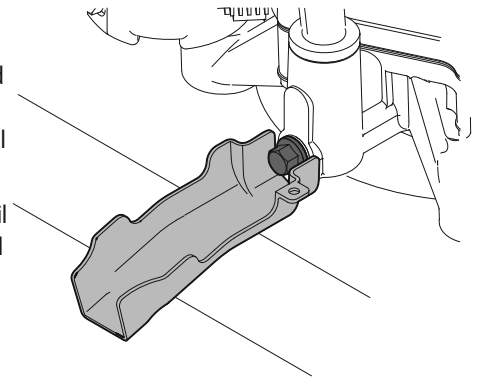

Figure 25
4. Snap the small end of oil drain sleeve onto the oil sump. See Figure 25.